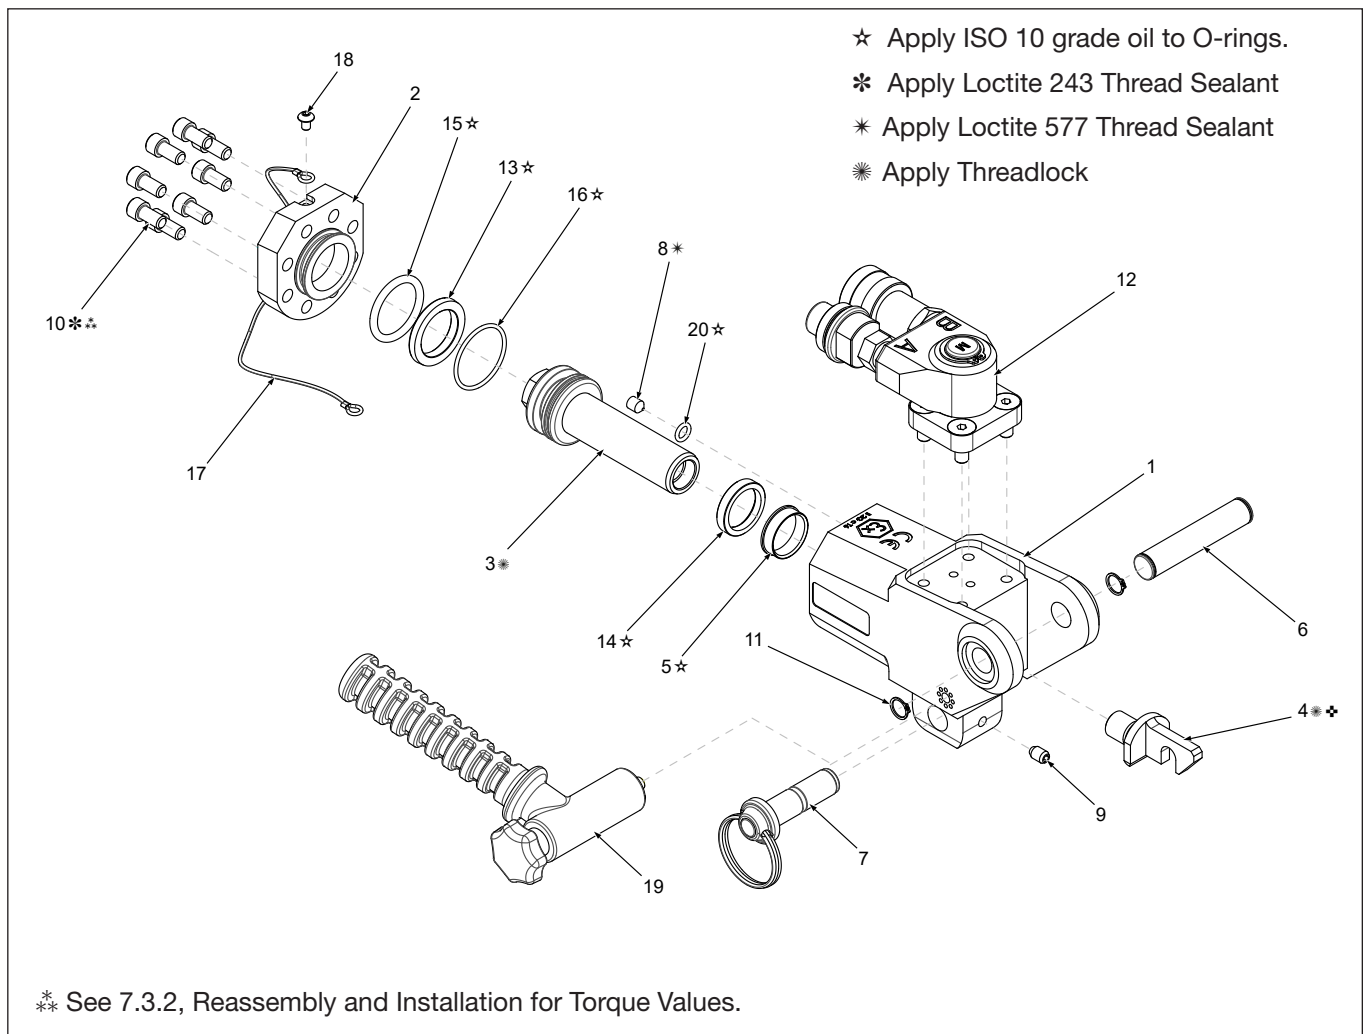

Figure 19: Exploded HMT
- Install a new O-rings (D) into the grooves on the swivel post (E).
- Coat O-rings (D) with a small amount of silicone grease. Then, carefully slide the swivel assembly (B) onto the swivel post (E).
- Reinstall the circlip retainer ring (A).
7.3.2 HMT Drive Unit (Fig. 19)
- Firmly hold the drive unit body (1). Remove bottom retaining pin (11) and ball end screw (9) from the drive unit, separate cassette assembly from the drive unit.
- Unscrew the socket button head cap (18) from the back cap (2) and remove the bottom retaining pin lanyard (17).
- Remove the retaining rings (11) and top retaining pin (6).
- Unscrew the eight socket head cap screws (10) and remove the back cap (2) and back cap o-ring (15).
- Unscrew and remove the rod end (4) from the front of the drive unit body, holding the Piston Rod (3) with a spanner to prevent rotation.
- Remove piston rod (3) and seals, O-rings and bush (13, 16, 14, 5) from the drive unit body.
- Remove grub screw (8) and O-ring (20).
NOTICE Be sure that the ratchet, drive plate, pawl, pawl spring, square drive, access plugs, and compression springs are correctly installed, in the reverse order of disassembly. Failure to install these parts correctly will result in component damage. Refer to figures 19 and 20.